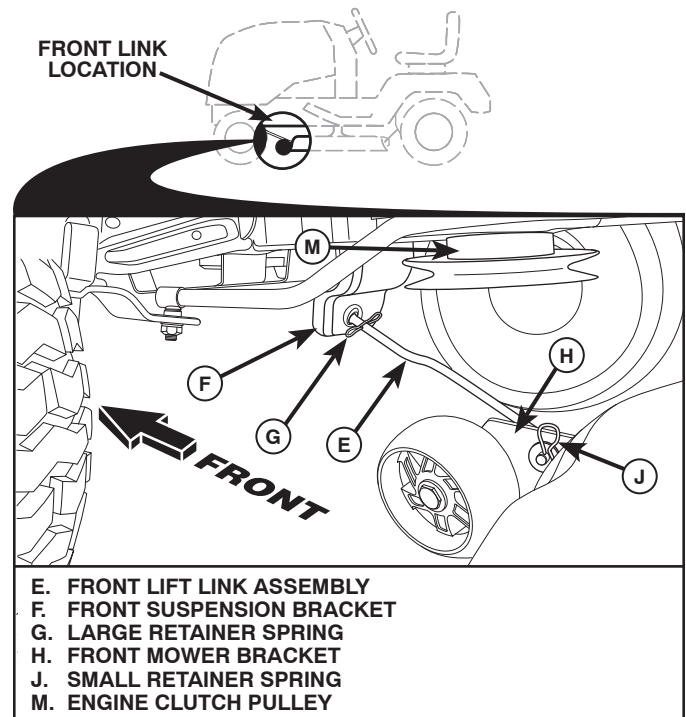

Fig. 32
8. ATTACH FRONT LINK (E) (See Fig. 32)
- From front of tractor, insert rod end of front link (E) through front hole in tractor front suspension bracket (F).
- Move to left side of mower and insert large retainer spring (G) through hole in front link (E) behind front suspension bracket (F).
- Insert other end of link (E) into hole in front mower bracket (H) and secure with washer and small retainer spring (J).